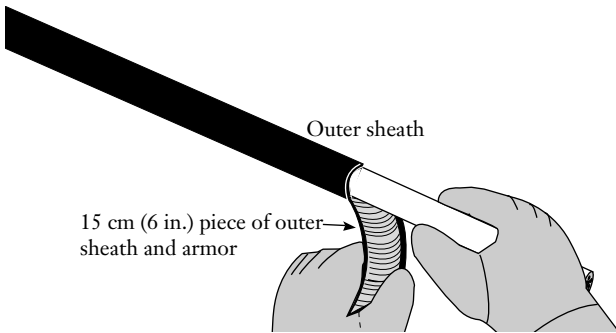

Figure 6
**5.6** Peel the 15 cm (6 in.) section of sheath and armor from the end of the cable – use care during this step to avoid damaging the cable core (Figure 6).